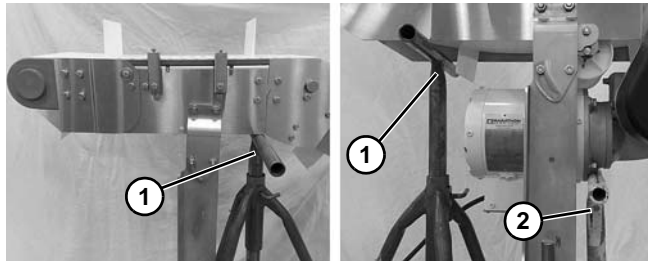

Figure 43
3. Place temporary support stands (**Figure 43, item 1**) at both ends of the conveyor. Place an additional support stand (**Figure 43, item 2**) under the drive motor, if equipped. See WARNING.